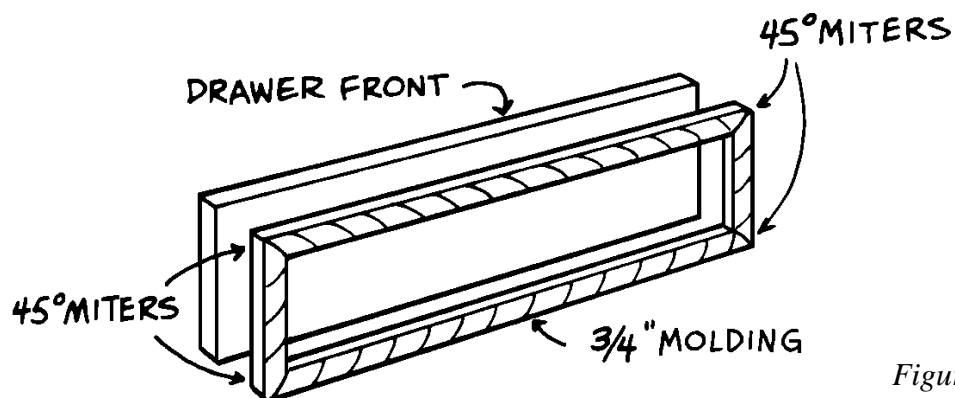

Figure 4
1. Each of the drawer fronts (E) is trimmed with $\frac{3}{4}$ -wide decorative molding. To trim the first drawer front, cut and fit pieces of molding, mitering the ends so that they fit perfectly flush with the outer edges of the drawer front (E), as shown in *Figure 4*.
2. Glue the molding in place and use a tack hammer to drive tiny wire brads through the molding and into the drawer front (E). Recess the nails with a nail set.